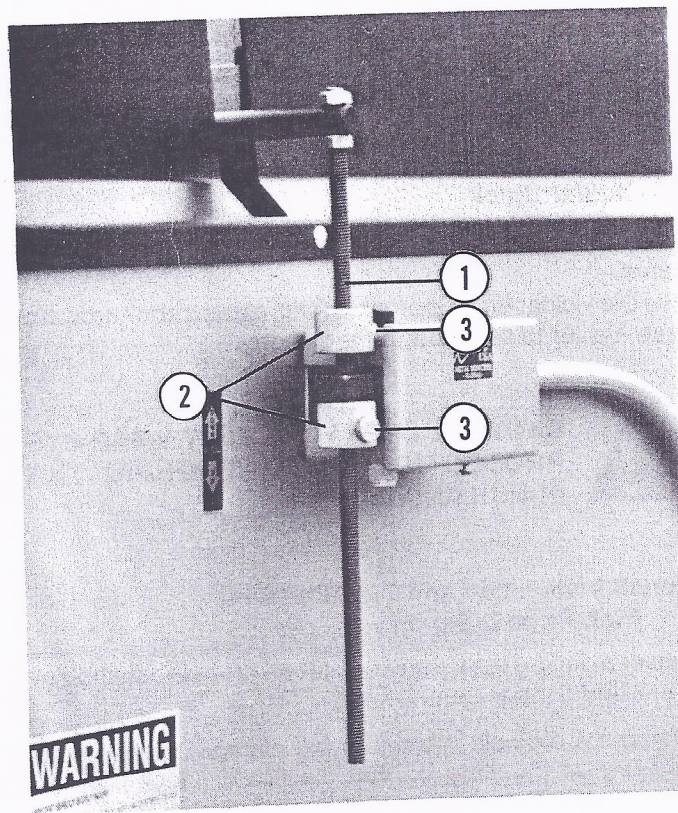

Figure 5
6. Release limit switch quick adjustment collars from shipping position (see Fig. 5).
This switch (Fig. 5) is provided to limit travel of the front hydraulic cylinder ram during punch or press work operation.
Press in on quick-set stroke buttons (Item No. 3, Fig. 5) and position stroke collars (Item No. 2, Fig. 5) to allow the ram stroke desired. Final fine adjustment is made by rotating the stroke collars on the vertical threaded rod (Item No. 1, Fig. 5).